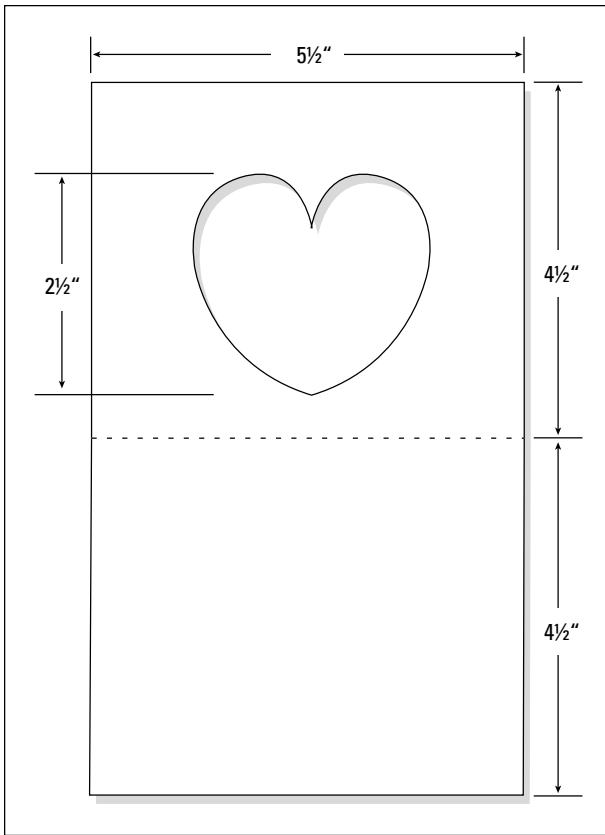

Figure 5-2:
- 1. Copy the template in Figure 5-2 onto the pink card, score along the dotted line with a pair of scissors, and cut out the card.**